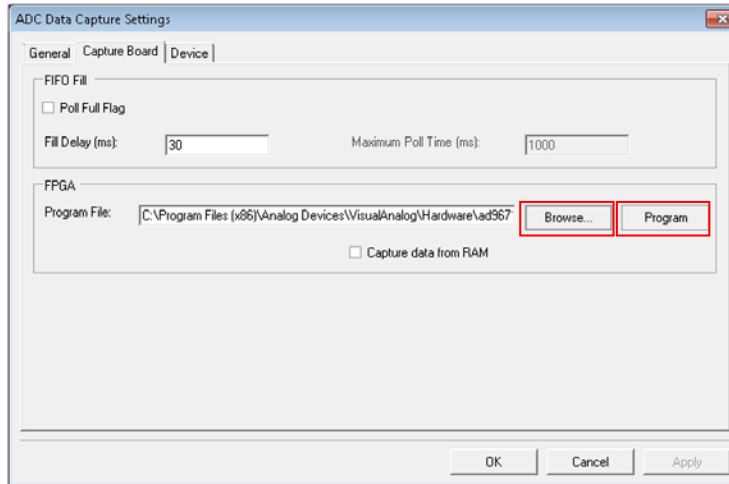

Figure 6. FPGA Programming Section
5. To reprogram the FPGA after VisualAnalog starts, click the **Settings** button in the ADC data capture block on any canvas, as marked with the red box in Figure 5. In the **Capture Board** tab in the **ADC Data Capture Settings** window shown in Figure 6, click **Browse**, select the bin file **ad9671\_evalez06132014\_0921am.mcs**, and then click **Program**. After the file loads, the CONFIG\_DONE LED illuminates on the data capture FPGA board. Click **OK** to close the window.